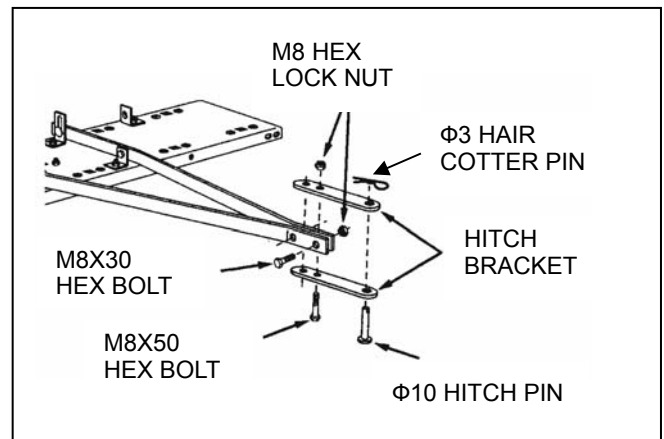

FIGURE 4
7. Assemble the front ends of the hitch mount arms together using two M8x30 hex bolts and M8 hex lock nuts. Do not tighten yet. See figure 4.
8. Assemble the hitch brackets to the top and bottom of the hitch mount arms using two M8x50 hex bolts and M8 hex lock nuts. Do not tighten yet. See figure 4.
9. Assemble the Φ10 hitch pin through the hitch brackets and secure it with a Φ3 hair cotter pin. See figure 4.